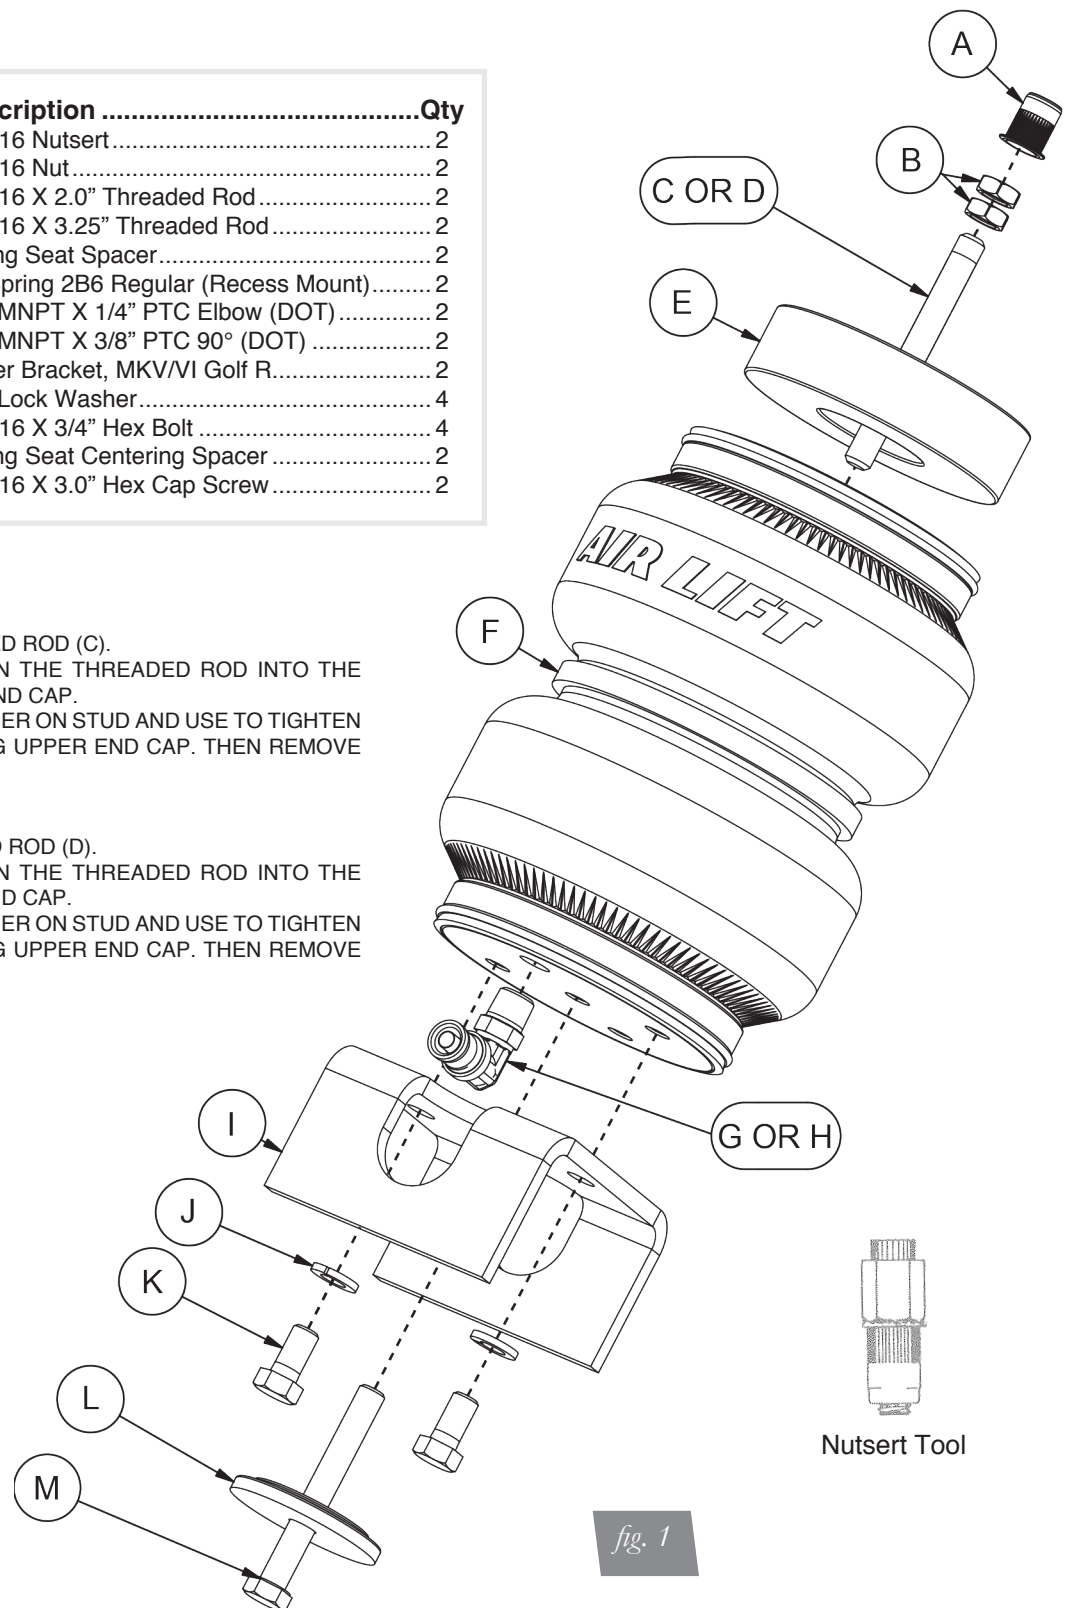

fig. 1
3. Two lengths of threaded studs are included with the kit (C or D, fig. 1). The shorter stud is for vehicles that retain the coil spring perch bump. The longer threaded stud is for vehicles without the spring perch bump. Apply Loctite to the threads of the upper end cap and thread in the appropriate stud. Take the supplied nuts and thread both onto one stud (figs. 8 & 9). Using the nuts jammed together, tighten the stud into the end cap until it bottoms (fig. 10). Remove both nuts (fig. 11).